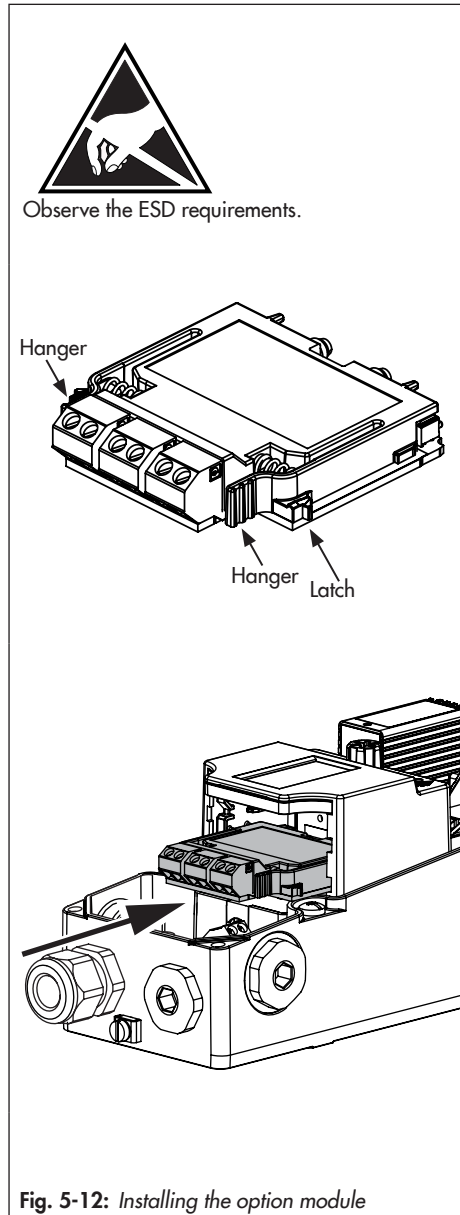

Fig. 5-12: Installing the option module
2. Take hold of the option module at the tabs (see Fig. 5-12).
1. Guide the mechanical assembly over the display and install it as shown in Fig. 5-12. Make sure that the pinion shaft engages with the gear wheel for transmission of the position pick-up. If it cannot be installed because the gear wheels are in the way, slightly turn the pinion shaft.